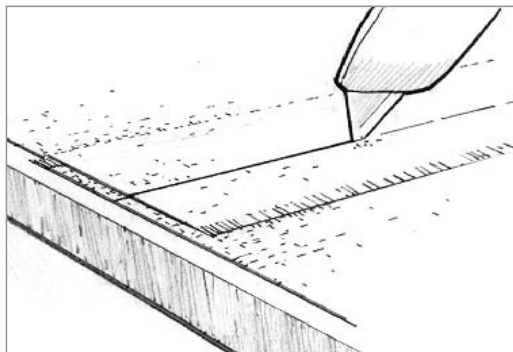
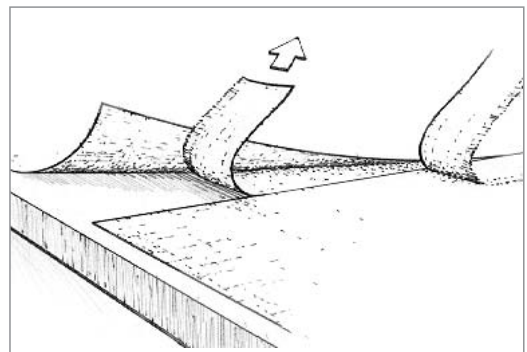

Figure 6-14 Trim overlapping fabric using a metal straightedge and a sharp utility knife, for a flush butt joint.
Figure 6-15 Remove the topmost trimming. Then lift the opposite cut edge to remove the overlapped trimming.
- a) Place a metal straightedge on top of and midway between the two overlapped edges. b) Cut through both layers of cloth with a sharp utility knife (Figure 6-14). c) Remove the topmost trimming and then lift the opposite cut edge to remove the overlapped trimming (Figure 6-15). d) Re-wet the underside of the raised edge with epoxy and smooth into place. The result should be a near perfect butt joint, eliminating double cloth thickness. A lapped joint is stronger than a butt joint, so if appearance is not important, you may want to leave the overlap and fair in the unevenness after coating.